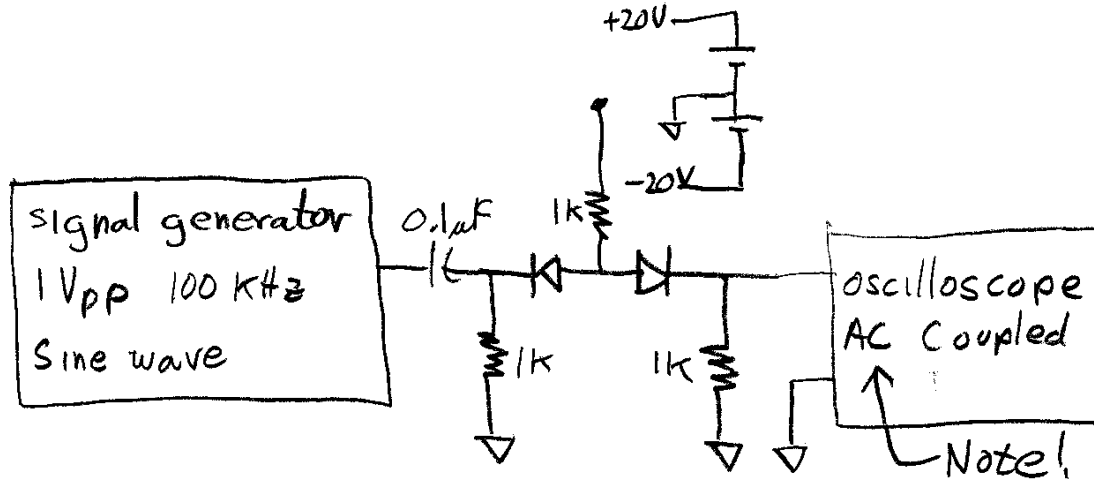

Figure 6: Electronic switch
5.1 Build the circuit in Figure 6.